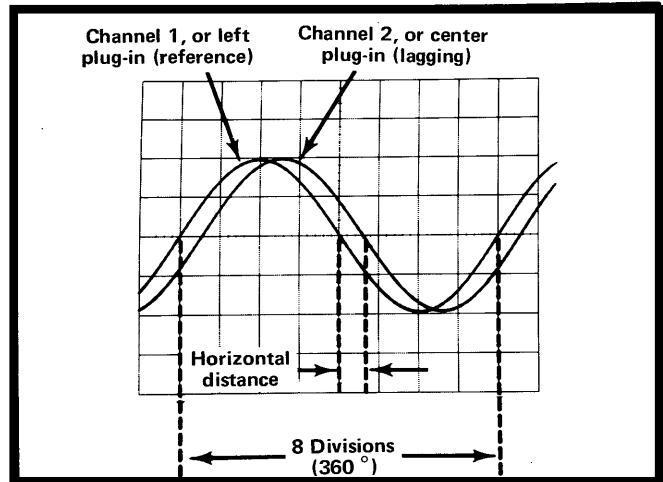
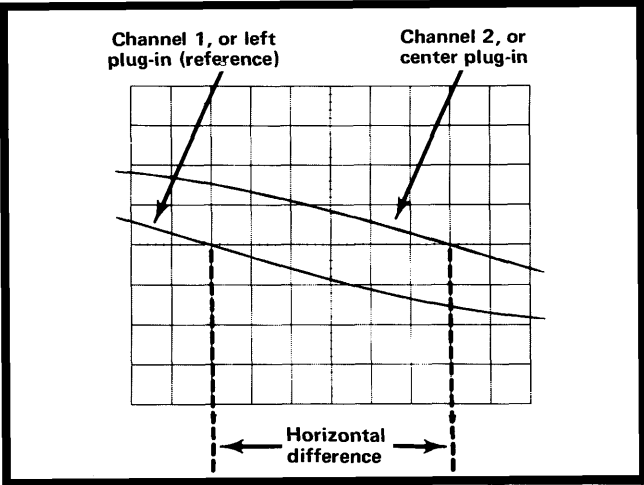

Fig. 1-6. Measuring phase difference.
Fig. 1-7. High-resolution phase difference measurement with increased sweep rate.
9. Turn the variable Sec/Div control until one cycle of the reference signal (channel 1, or left plug-in) occupies exactly eight divisions between the second and tenth vertical lines of the graticule (see Fig. 1-6). Each division of
EXAMPLE: Assume a horizontal difference of 0.6 division with a sweep rate of 45°/division as shown in Fig. 1-6. Use the formula:
EXAMPLE: If the sweep rate were increased 10 times with the magnifier, the magnifier sweep rate should be $45^\circ/\text{division} \div 10 = 4.5^\circ/\text{division}$. Fig. 1-7 shows the same signals as used in Fig. 1-6, but with the Swp Mag button pushed in. With a horizontal difference of six divisions the phase difference is: